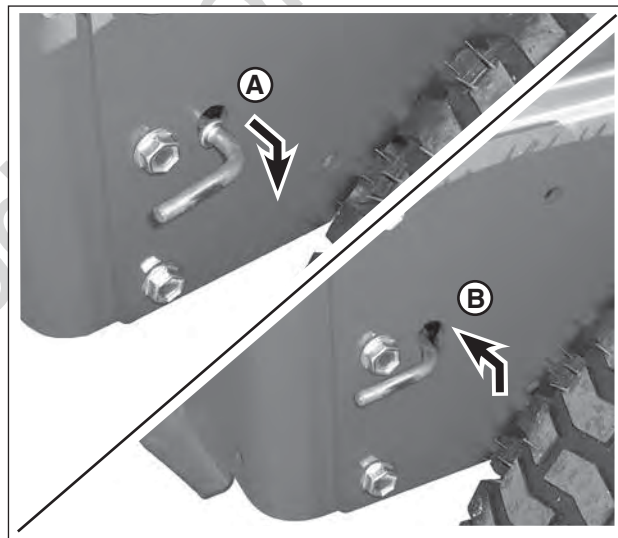

Figure 21: Transmission release lever
3. Move the transmission release lever (located behind the right rear tire) out and down into the locking slot (A, Figure 21) to disengage the transmission.
5. After moving the unit to the desired location, move the transmission release lever up and in (B) to engage the transmission.